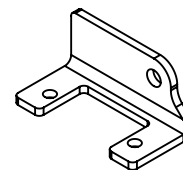

Figure 3
- **Note:** If installing stalk stomper on the same row that the deck plate cylinder is attached; replace the factory mounting bracket with Mount Bracket (22043) which is not included in the kit, please order separately (Fig. 3).